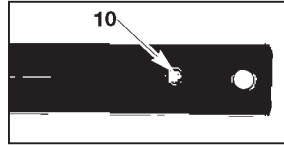

Figure 10
15. To make installation easier, submerge handle grips (4) into warm soapy water. Remove handle grips (4) from soapy water and slide onto handles (2).
16. Squeeze snap button (12), slide into handle (2), and release snap button through second hole. See Figure 10. **NOTE:** V of snap button is inserted first. Repeat step on other handle.